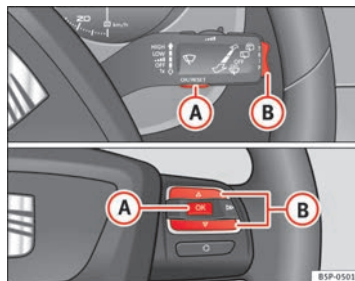

Fig. 40 Rocker buttons A and B. Steering wheel controls.
- When the ignition is on, briefly press button **A** on the windscreen wiper lever to change from one memory to another or press button **A** on the steering wheel controls **⇒ fig. 40**.